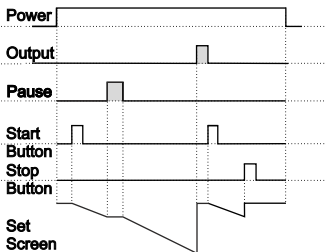

Figure 1.2
1.1.2 If downcount  $\overline{dEct}$ =1 and  $\overline{outF}$  is  $\overline{bFF}$  the control diagram is shown in Figure 1.2